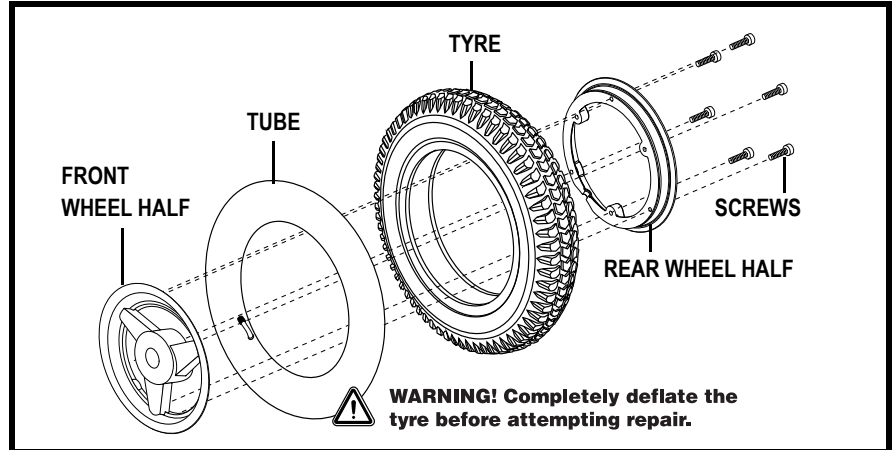

Figure 26. Drive Wheel Disassembly
6. Remove the screws from the rim assembly and separate the front and rear rim. See figure 26.